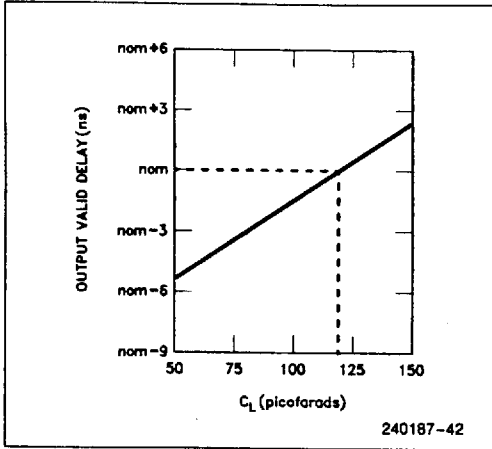

Figure 7.8. Typical Output Valid Delay versus Load Capacitance at Maximum Operating Temperature ( $C_L = 120 \text{ pF}$ )
4. Tested with  $C_L$  set at 50 pf and derated to support the indicated distributed capacitive load. See Figures 7.8 though 7.10 for the capacitive derating curve.